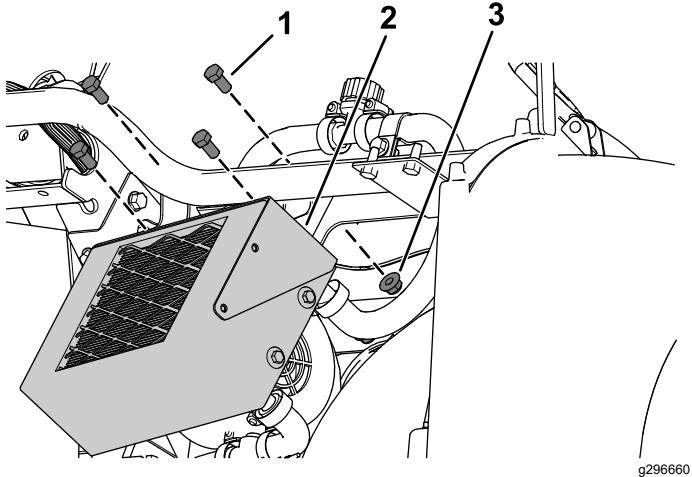

Figure 28
E. Secure the heater to the heater bracket using 4 hex-head bolts (3/8 x 3/4 inch) and 4 flange nuts (3/8 inch) as shown in Figure 28.